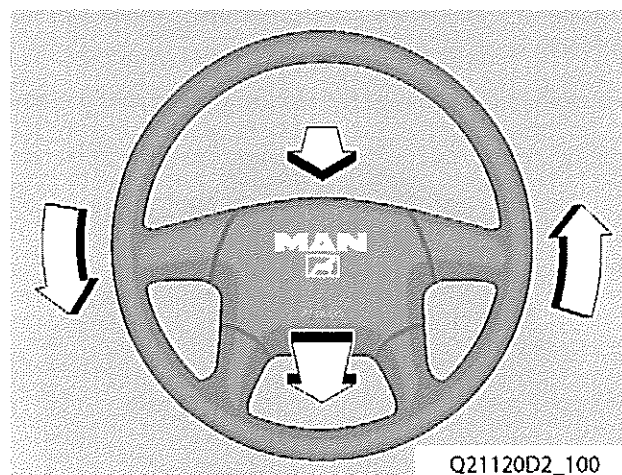

Fig 12 Steering wheel positions
28.2 Refer to Fig 12. Adjust the height and reach of the steering wheel.